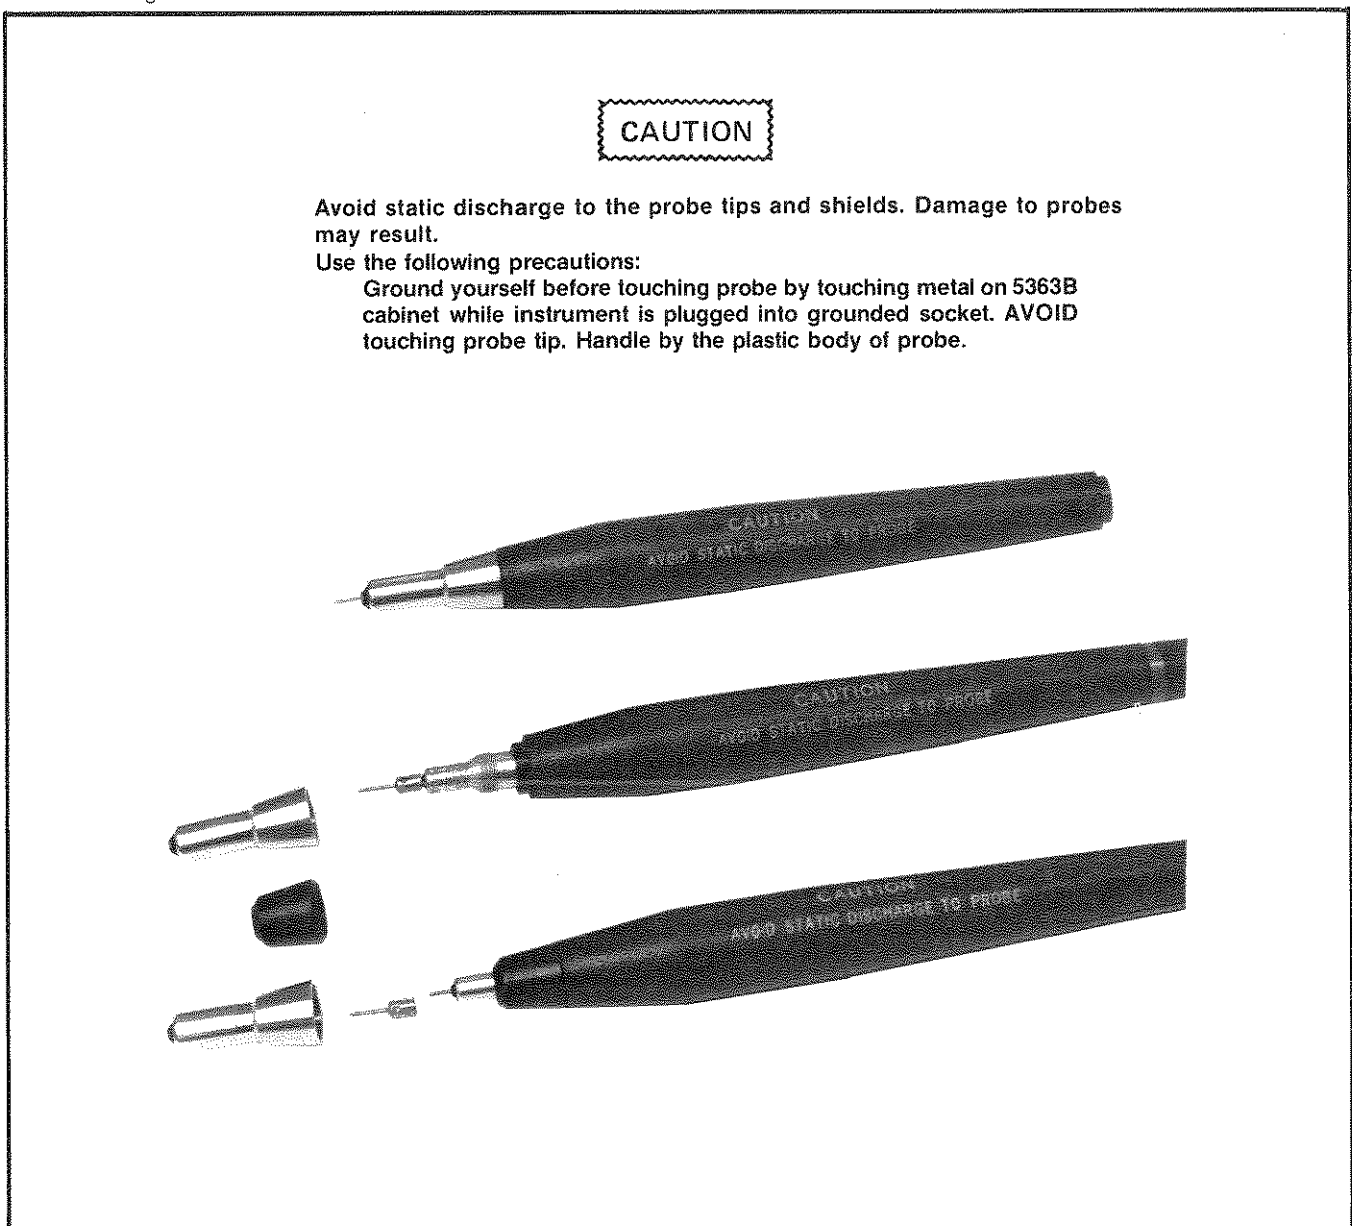

Figure 1-2. Changeable Probe Tips and Probe Cautions
5. AVOID STATIC DISCHARGE TO THE PROBE TIPS. DAMAGE TO THE PROBES MAY RESULT. FOLLOW CAUTIONS IN *FIGURE 1-2.*
1-16. The probes have an input impedance of 1 Meg ohm and an input capacitance of <15 pF. For use with either Hewlett-Packard or Tektronix® RF hardware, the tip of the probe unscrews to allow the tip to be changed to mate with the specific manufacturer's equipment, see *Figure 1-2*.